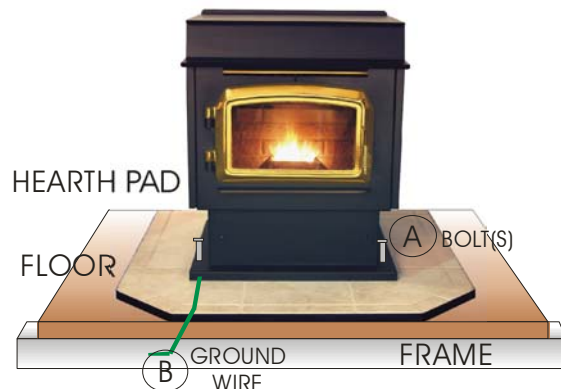

Figure 24
-  Electrically ground your stove or the pedestal to the steel frame of the home. Use a number 8 gauge copper wire, (B) figure 24, or equivalent.